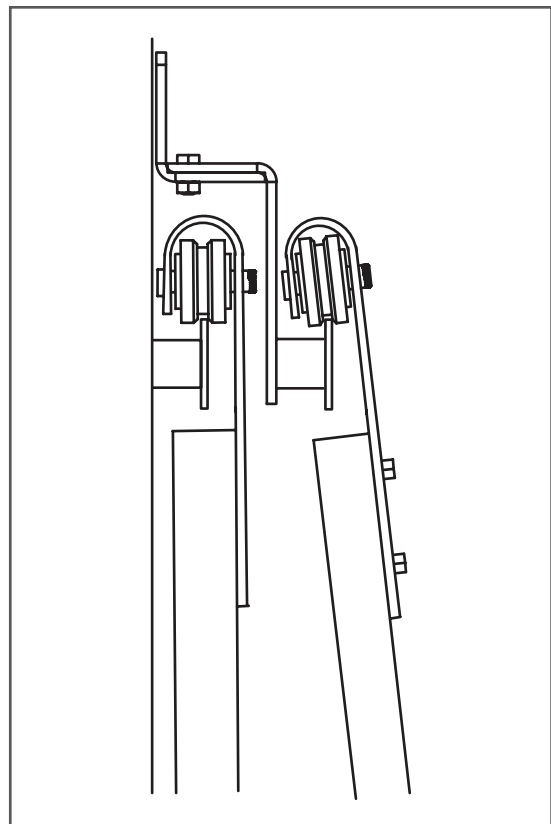

Figure 10
15. Hang the panels or doors (Figure 10).